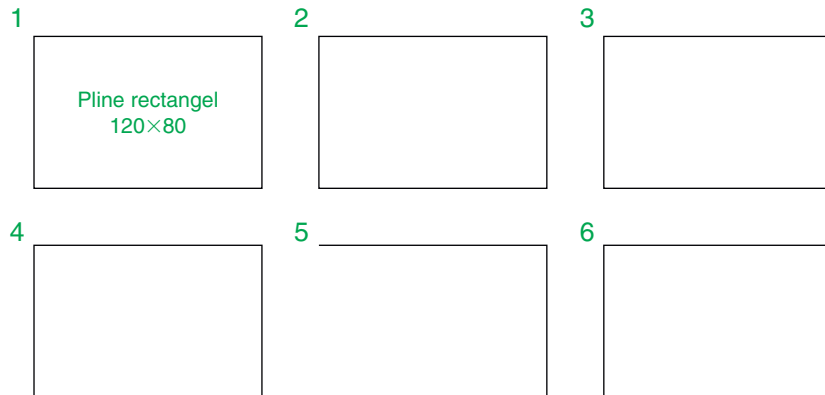

Fig. 3.41 Examples – Edit Polyline – the plines to be edited
1. With the **Polyline** tool construct the outlines **1** to **6** of Fig. 3.41.